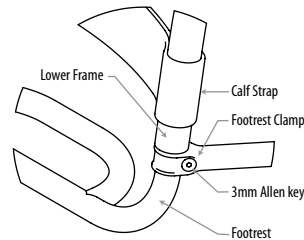

Figure 17.26
- 1 Using a 3mm Allen key loosen the socket head cap screws on the clamp. (See Figure 17.26)